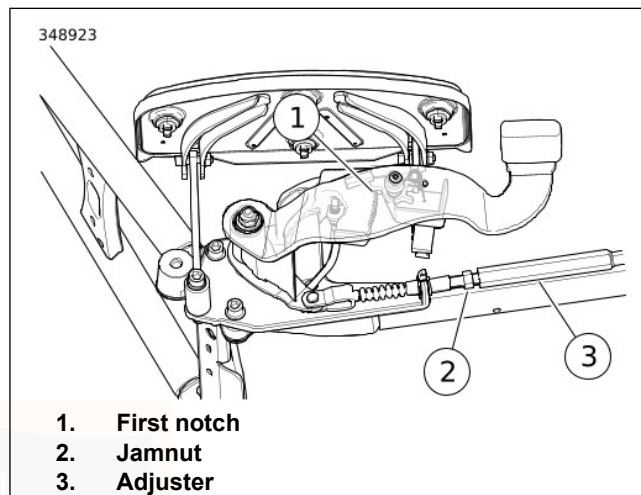

Figure 71. Parking Brake Adjustment
3. See Figure 71. Pull the boot back. Loosen jamnut.